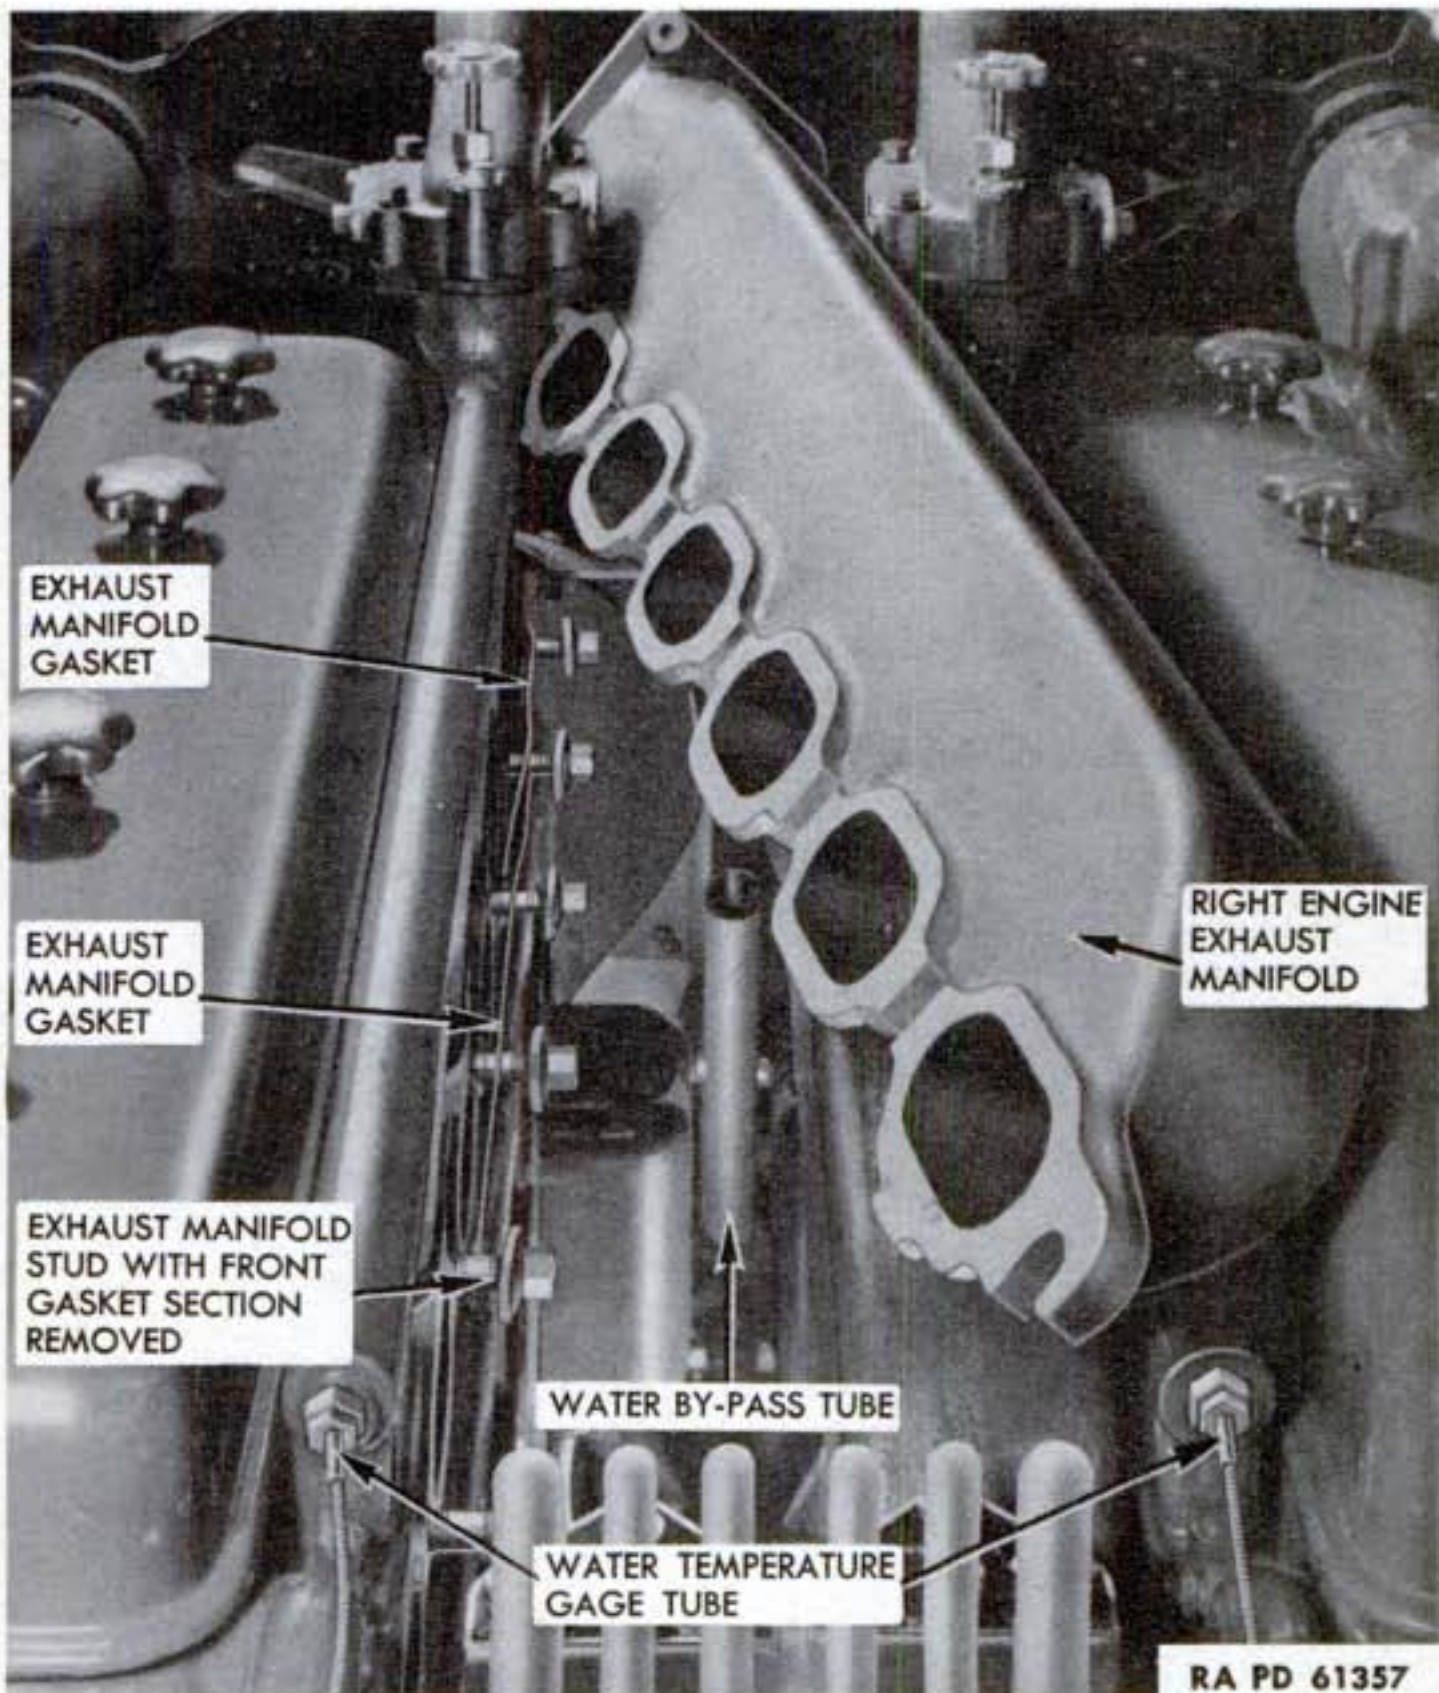

Figure 50—Exhaust Manifold Removed
b. Removal of Exhaust Manifold. Perform operations outlined in paragraph 75 b. Lift exhaust manifold off (fig. 50). Remove washers and nuts from all studs except No. 3 and No. 5 (counting from either end). Remove gaskets.